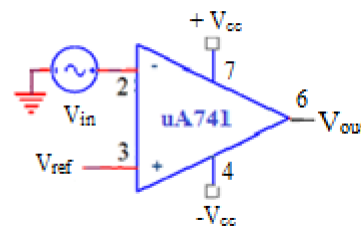

Fig. 6.2: Level crossing detector
- [iv] Now connect dc reference voltage as shown in Fig. 6.2 and note down input and output waveforms for various negative and positive reference voltages.